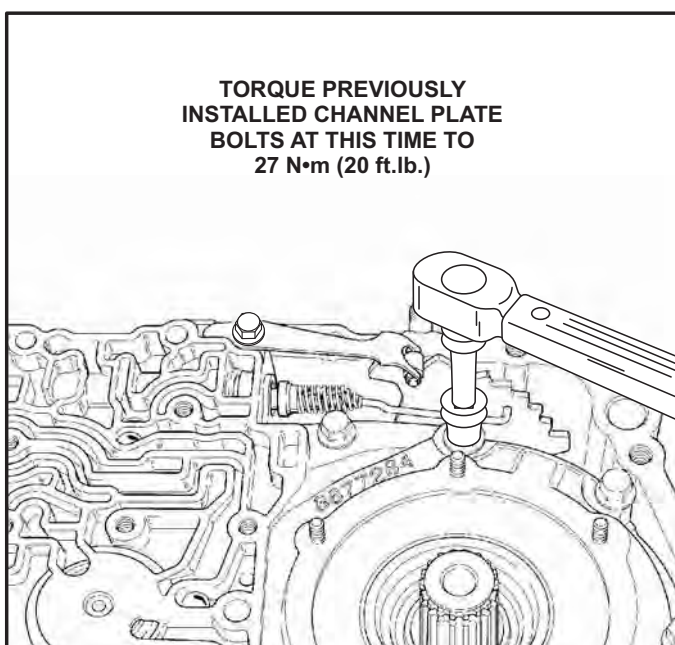

Figure 200
68. Torque the channel plate to case bolts that have been installed so far to 27 N•m (20 ft.lb.), as shown in Figure 200.